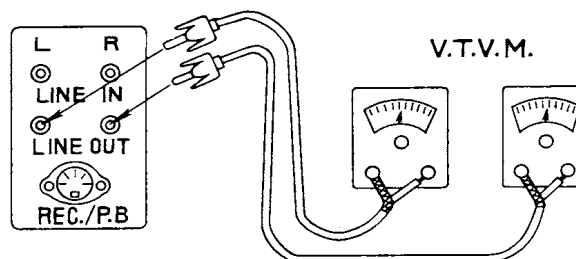

Fig. 11
b) Place turn the volume control knob (VOLUME: CH-1 or CH-2) completely to the right (clockwise) to gain maximum volume. Then connect the V.T.V.M. (vacuum tube voltmeter) to the LINE OUT JACK as shown in Fig.11. Adjust the output of the low frequency oscillator so that the output voltage reaches 0.45V (Adjust the intensity of input signals). Even when decreasing the input, if the output voltage does not decrease to the predetermined